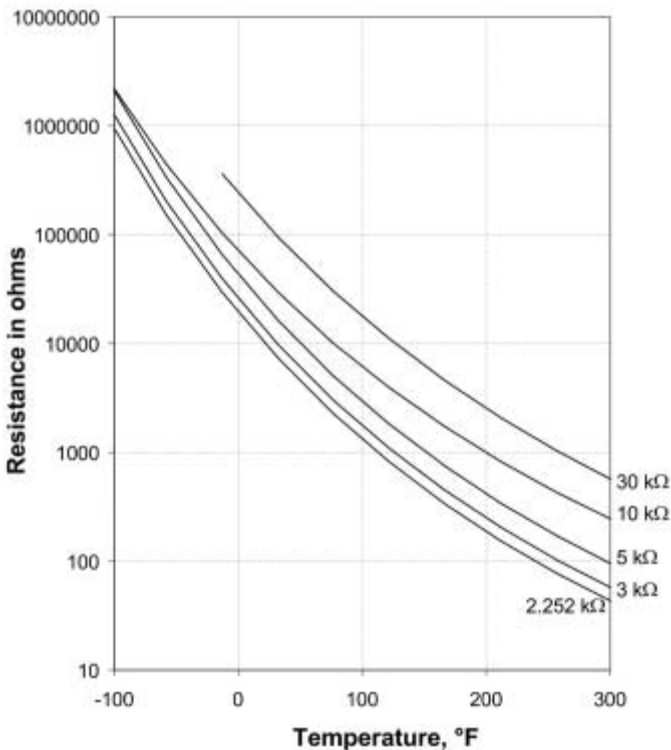

FIGURE 5.11 Response curves for different thermistors. (Note logarithmic scale on y-axis)
*Thermistors* are small semiconductors whose resistance changes as a function of temperature. As the temperature increases, the resistance decreases as shown in Figure 5.11. The main advantages of thermistors is that they are small, inexpensive, and respond very quickly to changes in temperatures. They also have a relative high resistance so the lead wire resistance introduces very little error as